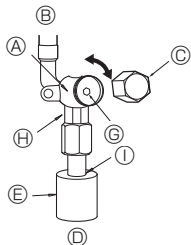
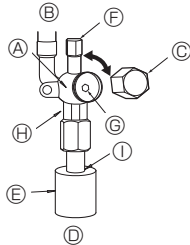

Fig. 4-5
Fig. 4-6
(1) Gas side of P100-P140 (Fig. 4-5)
- ① Remove the cap and turn the valve rod counterclockwise as far as it will go with the use of a 5 mm hexagonal wrench. Stop turning when it hits the stopper. ( $\phi$  15.88: Approximately 13 revolutions)
- ② Make sure that the stop valve is open completely and rotate the cap back to its original position.
(2) Liquid side of P100-P140 (Fig. 4-6)
- ① Remove the cap and turn the valve rod counterclockwise as far as it will go with the use of a 4 mm hexagonal wrench. Stop turning when it hits the stopper. ( $\phi$  9.52: Approximately 10 revolutions)